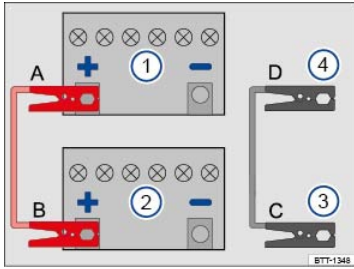

Fig. 189 Diagram for attaching the jumper cables: Dead battery ① and booster battery ②.
Key to ⇒ Fig. 189 , ⇒ Fig. 190 :
The procedure for attaching and for removing the jumper cables is described below. Perform each of the following steps only in the order described, which follow the letters shown in the illustrations ⇒ Fig. 189 or ⇒ Fig. 190 A – B – C – D.
- ① Switch off the ignition in both vehicles ⇒ Starting and stopping the engine .
- ② If necessary, open the battery cover in the engine compartment ⇒ Vehicle battery or flip open the cap on the positive jump-start terminal ¹⁾.
- ③ Attach one end of the *red* jumper cable to the **positive terminal** ⇒ Fig. 189 ⊕ of the dead battery ① ⇒ ▲ .
- ④ Attach the other end of the *red* jumper cable **B** to the **positive battery terminal** ⊕ on the good battery (booster battery): ②.
- ⑤ Attach one end of the *black* jumper cable **C** to the **negative jump-start terminal** ③ of the vehicle **providing** assistance, or if that is not available, to a bare